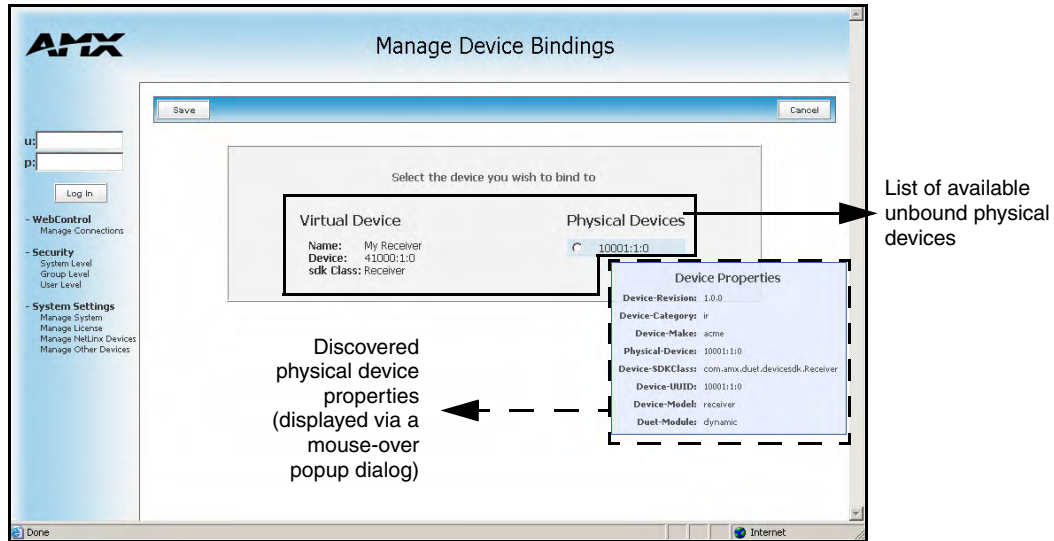

FIG. 82 Manage Device Bindings - showing a listing of all unbound devices
- Dynamic application devices that have not been bound to a physical device display a **Bind** button. When this button is selected, a secondary display appears with a listing of all available unbound physical devices that match the application device's Device SDK class type (FIG. 82).
- A mouse-over popup dialog is provided to display the properties associated with each discovered physical device that is listed (FIG. 82).
- From the secondary window, choose the appropriate physical device from the listing of all available unbound physical devices which matches the application device's Device SDK class type (FIG. 82 on page 124).